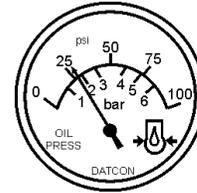

Figure 57. Oil Pressure Gauge
14. The engine oil pressure gauge (Figure 57) will indicate the oil pressure (kg/ cm²) of the engine. Under normal operating conditions the oil pressure should be approximately 25 psi.